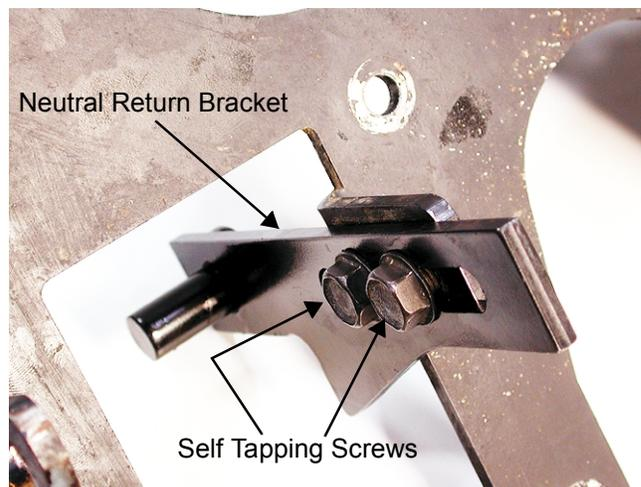

Figure 11
14. Inspect the self tapping screws securing the neutral return bracket assembly to the front torque bracket. See Figure 11.